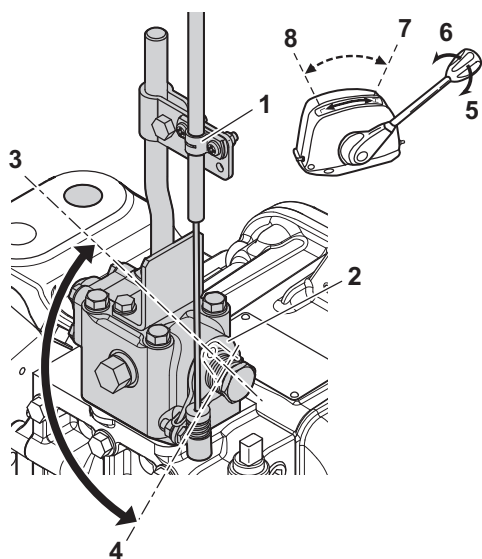

Figure 6
1. Ensure that the trolling lever (**Figure 6, (2)**) is in the high-speed (**Figure 6, (4)**) position when the trolling remote control handle is in high-speed position (**Figure 6, (7)**).
2. Ensure that the trolling lever is in the low-speed (**Figure 6, (3)**) position when the trolling remote control handle is in low-speed position (**Figure 6, (8)**).
3. To adjust, loosen the adjustment screw of the cable fitting (**Figure 6, (1)**) and adjust the position of the cable.